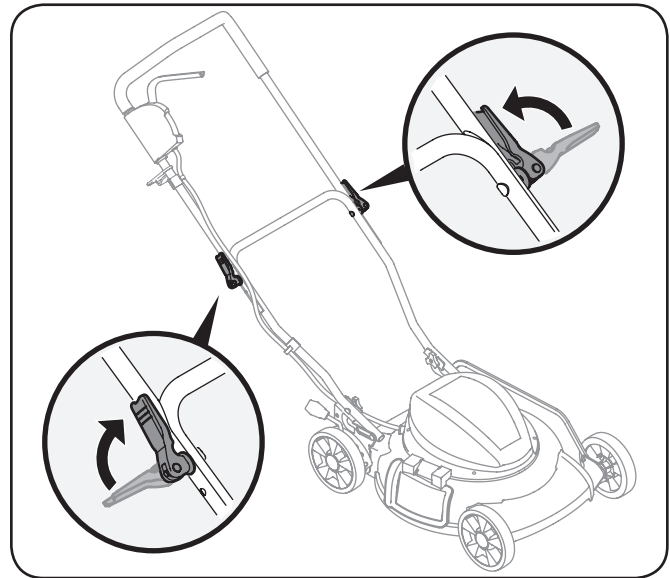

Figure 3-4
5. Tighten the clamps by pivoting them upward. See Fig. 3-4.